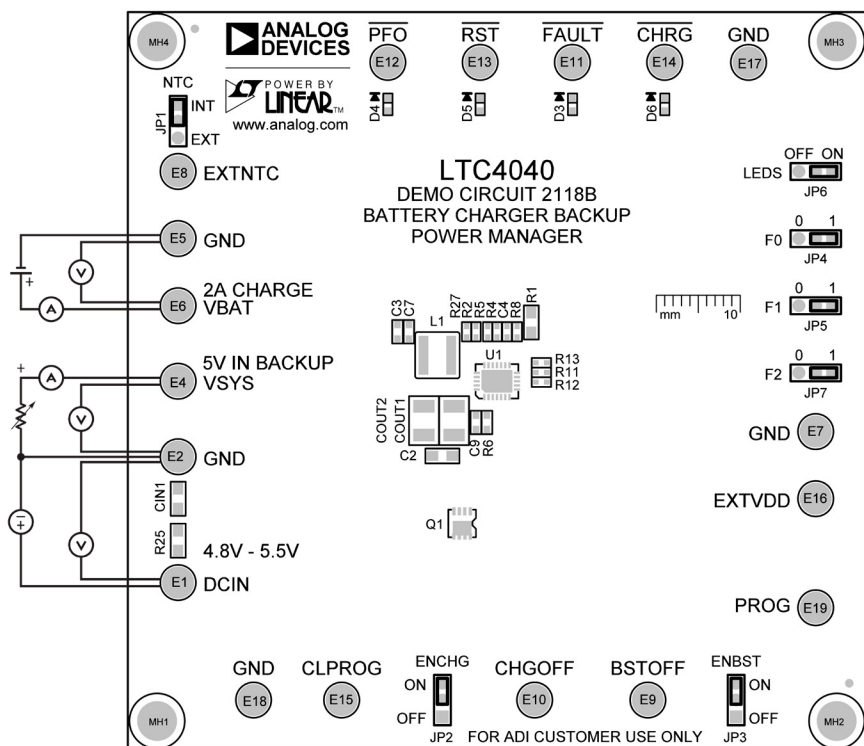

Figure 3. Proper Measurement Equipment Setup
2. With all power off, connect the input supply, system load, and meters as shown in Figure 3.
3. Connect the battery as shown in Figure 3 to charge at 4.1V, 2A. For alternate charge voltage settings, refer to Table 1.
- Use an external thermistor connected between EXTNTC and GND as shown in Figure 3, with the NTC jumper, JP1, set to EXT.